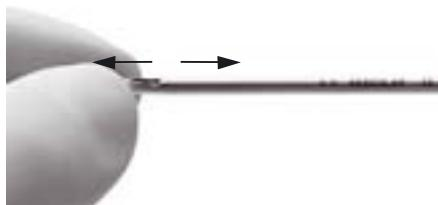

Fig. 3
- To disassemble shaft 5, see Fig. 3: